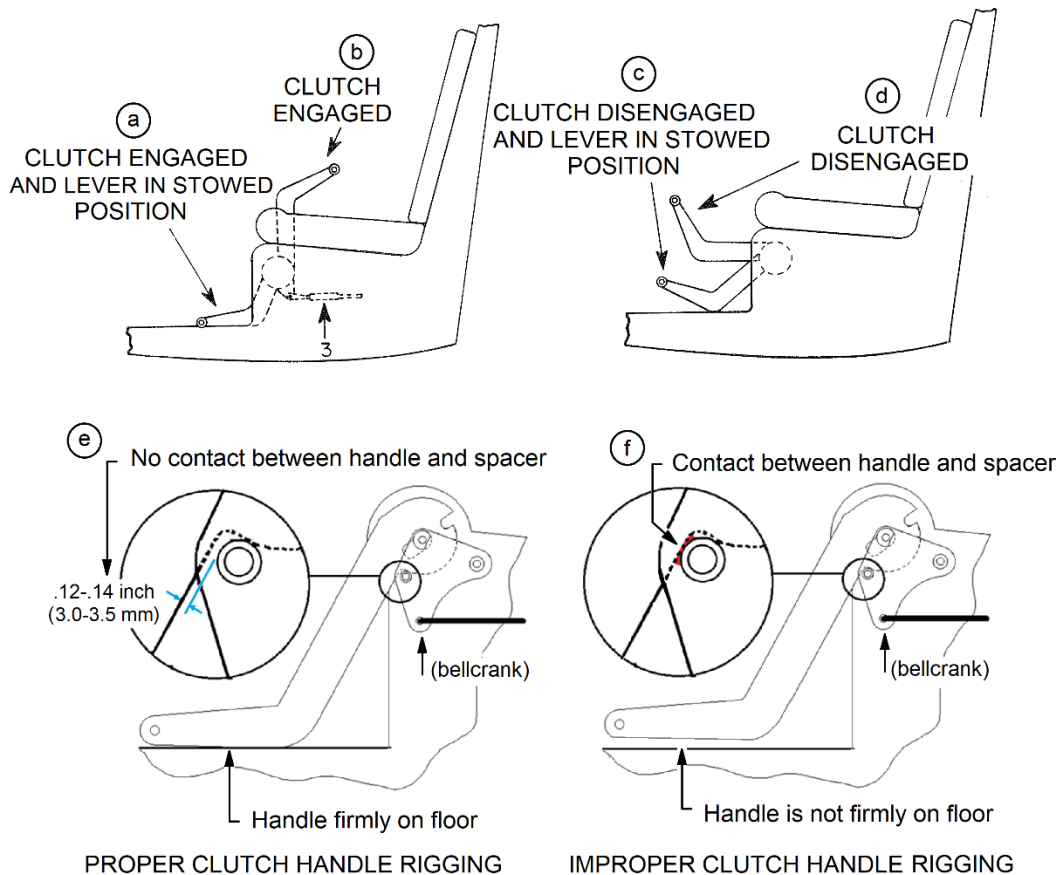

Figure 11-1. Clutch Rigging
- (1) Pull clutch handle up a couple inches and SLOWLY return lever to CLUTCH DISENGAGED position (Fig. 11-1, Detail d).
- (2) ENGAGE clutch and STOW clutch lever (Fig. 11-1, Detail a).
- (a) The clutch lever should lie flat on the floor (Fig. 11-1, Detail a). Movement of the handle should have no effect on the bellcrank (Fig. 11-1, Detail f).
- (b) Use the shank of a 1/8 drill bit or a #30 drill bit to verify that there is approximately .125-inch (3.2 mm) space between the clutch lever and the spacer in the bellcrank (Fig. 11-1, Detail e).
- (a) Place clutch in ENGAGED position (Fig. 11-1, Detail b). With clutch engaged, lift and release clutch lever to stowed position (Fig. 11-1, Detail a). Adjust turnbuckle (3) until the clutch lever will lie flat on floor and that there is approximately 0.125 inch/3.2 mm clearance between the handle and the spacer (Fig. 11-1, Detail e).
- 2 Engage the clutch lever (Fig. 11-1, Detail b) and check that belt tension assembly is locked over center with stops (8) contacting side plates (9), and the clutch engage warning light is out (Fig. 11-3, Detail b).
- 3 Disengage the clutch (Fig. 11-1, Detail d).
(3) Spring Capsule Slide Connection Adjustment
- (f) Secure yoke jam nut (5) against yoke (4) (40-45 ft-lb/4.5-5.1 Nm).
- 1 Spring capsule adapter (6) jam nuts.
- 2 Yoke jam nut (5).
- 3 Clutch cable rod end jam nut (12).
- (6) Final Clutch Lever Adjustment Check
- (a) With the clutch engaged and clutch lever in stowed position, the clutch lever should lie flat on the floor (Fig. 11-1, Detail a). Movement of the handle should have no effect on the bellcrank (Fig. 11-1, Detail e and Detail f).
- (b) Use the shank of a 1/8 drill bit or a #30 drill bit to verify that there is approximately 0.125-inch (3.2 mm) space between the clutch lever and the spacer in the bellcrank (Fig. 11-1, Detail e).
| 3. | Turnbuckle (Fig. 11-1) | 6. | Shaft |